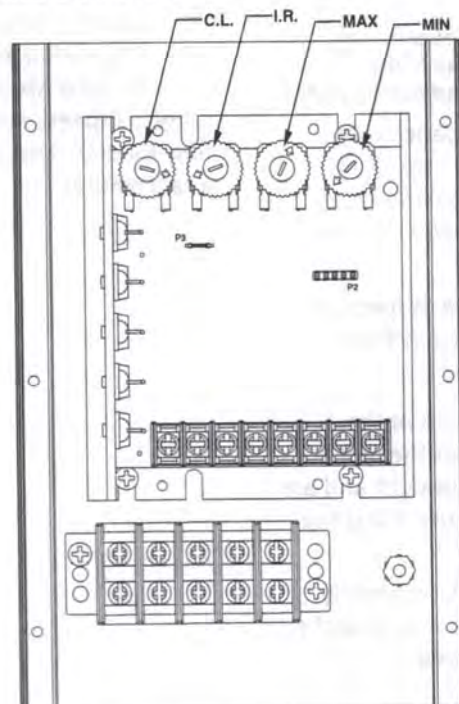

Figure 5 - Trimpot Location
- d. Using an insulated handle screwdriver, adjust the MAX trim pot on the control PC board. (See Figure 5 for location.) Clockwise adjustment of the pot increases the maximum output to the motor; counterclockwise adjustment decreases the maximum output to the motor.
- d. Adjust the MIN trim pot on the control PC board. (See Figure 5 for location.) Clockwise adjustment of the pot increases output to the motor; counterclockwise adjustment decreases.